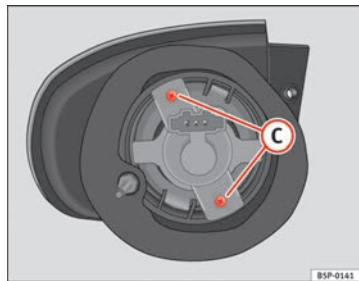

Fig. 194 Indicator light
- Unscrew the bolts ⇒ page 272, fig. 194 **C** from the lamp holder and pull on this.
- Unscrew the bolts ⇒ fig. 194 **C** from the lamp holder and pull on this.